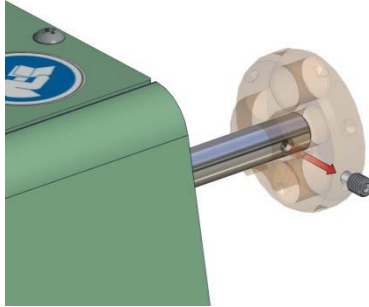

Figure 4.9.3
3. Remove the Rotary Disk Set Screw from the Spindle shaft. See Figure 4.9.3 below.